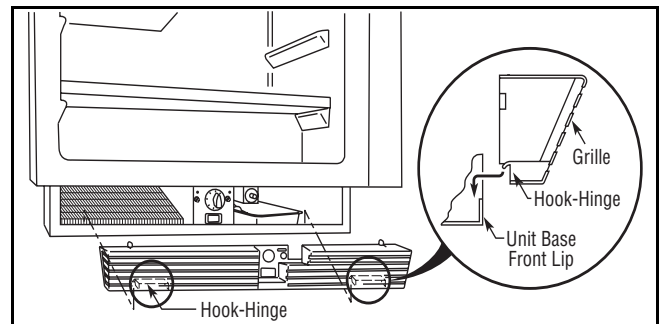

Figure 8
5. Place the two hook-hinges (**Figure 8**) located on the rear bottom side of the grille onto the front lip of the unit base. Swing the grille up into position, and align the screw hole on the grille to the grille screw hole on the cabinet.